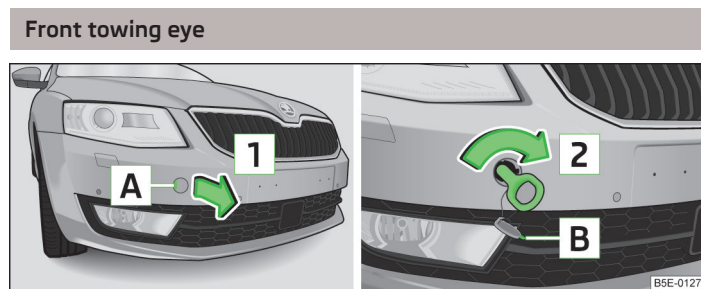

Fig. 205 Front bumper: Removing the cap/installing the towing eye
- Manually screw the towing eye as far as it will go in the direction of the arrow **2** » Fig. 205 » **i**.
- Press on the cap in the area **A** » Fig. 205.